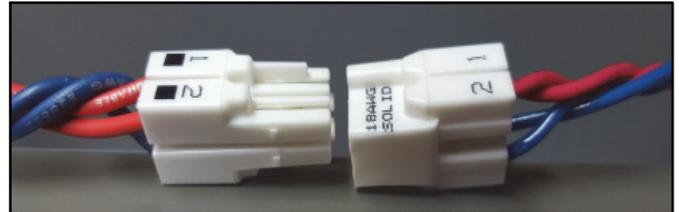

Figure 2
6. Connectors shown in figure 2 do not need to be removed or replaced, unless faulty or defective.
2. Grip one of red lampholder wires firmly and push conductor into port marked #1 on male connector half (side with squares shown in figure 2). Grip other red lampholder wire firmly and push conductor into port marked #2 on male connector half.